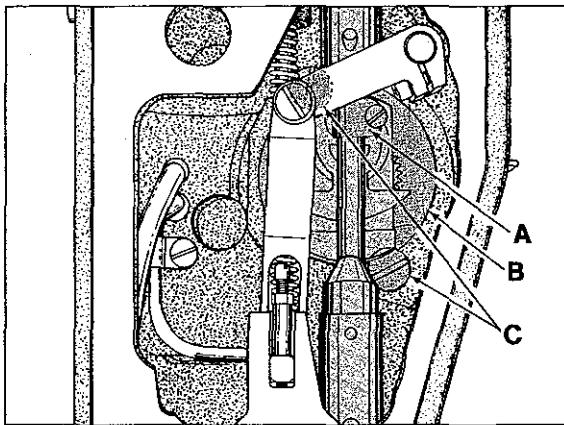

Fig. 3
NOTE: Cardan drive internal tooth ring gear (B, Fig. 3) has been set at the factory and secured with screws (C). DO NOT attempt to remove this gear. Without proper adjustments, damage to needle bar may result.